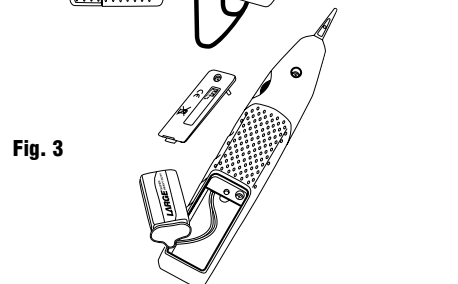

Fig. 3
1. Unscrew battery compartment (See Fig. 3)